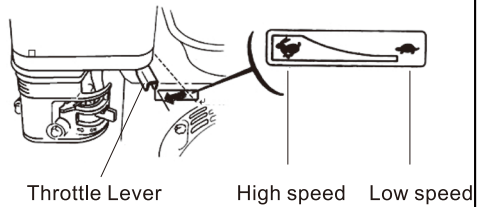

Fig.12
7. Move the throttle lever fully to the left (high speed). (Fig. 12)